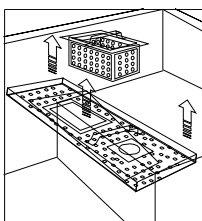
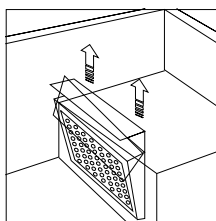
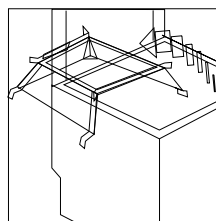

Fig. 10
Fig. 11
Fig. 12
- Remove the rack guide (Fig. 12), Bulk and Long Scrap Baskets (Fig. 10) and Filter (Fig. 11) for cleaning